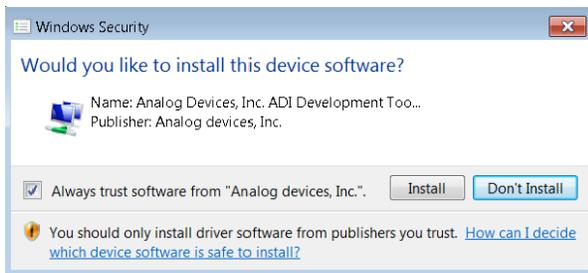
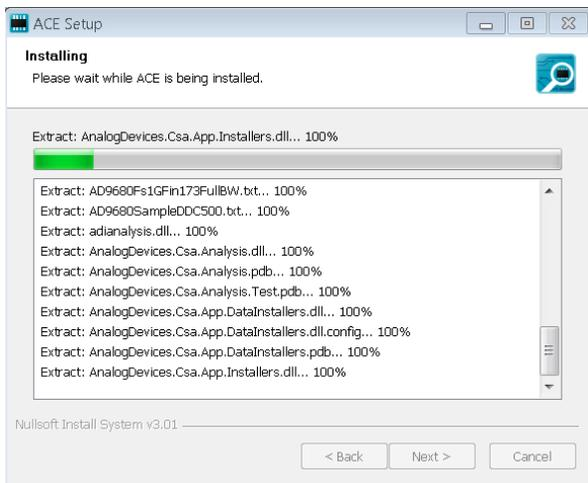

Figure 12. Windows Security Window
Figure 13. Installation in Progress
- The **Windows Security** window opens (see Figure 12). Click **Install**. Figure 13 shows the installation in progress. No action is required.